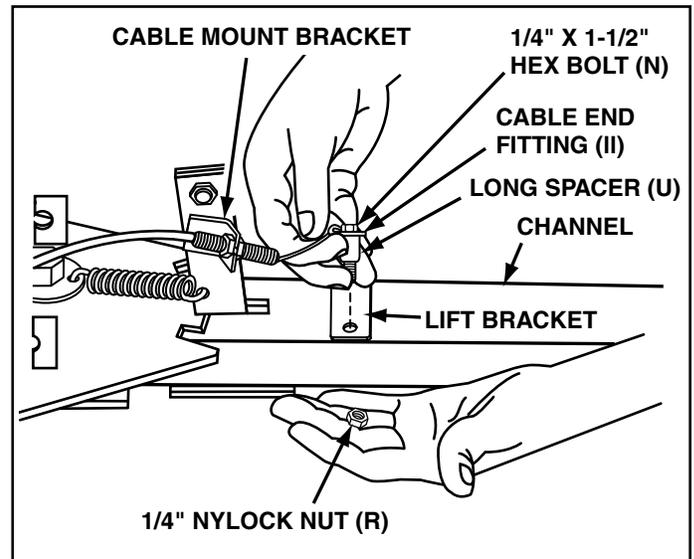

FIGURE 14
- Assemble a 3/8" x 1-1/4" carriage bolt (K) through the cable mount bracket (GG) and then mount it from the left side to the square holes in the angle lock bars. Secure the bracket at the angle shown in figure 14 with a 3/8" nylock nut (Q).
STEP 13: (SEE FIGURE 14)
- Attach the cable end fitting (LL) and the long spacer (U) to the left hand hole in the channel and lift bracket using a 1/4" x 1-1/2" hex bolt (N) and 1/4" nylock nut (R). **Tighten**, keeping the cable end fitting aligned with the threaded end of the cable.